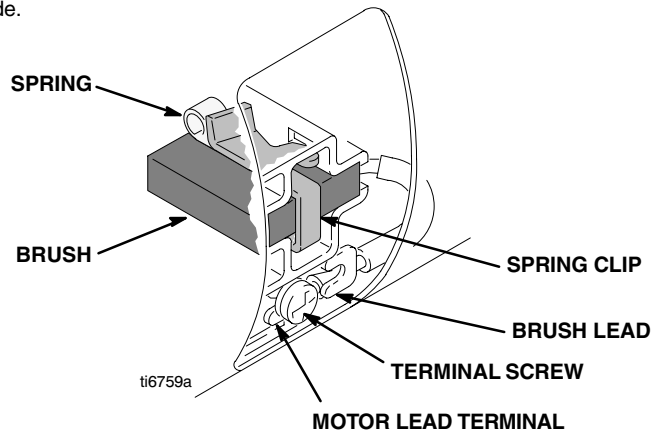

Fig 2
3. Loosen terminal screw. Pull away brush lead, being careful motor lead terminal remains in place. Remove and discard brush and spring. See Fig 2.